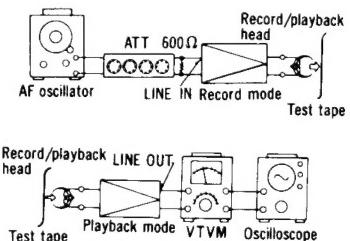
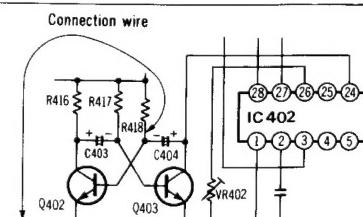

Fig. 19
Fig. 20
<p>① Overall gain</p> <p>Condition:</p> <ul style="list-style-type: none"> * Record/playback mode * Input level controls ... MAX * Standard input level; MIC -72 ± 4 dB LINE IN ... -24 ± 4 dB <p>Equipment:</p> <ul style="list-style-type: none"> * VTVM * AF oscillator * ATT * Oscilloscope * Resistor (600Ω) * Test tape (reference blank tape) ... QZZCRA for Normal 	<p>1. Test equipment connection is shown in fig. 19.</p> <p>2. Place UNIT into record mode, and tape selector to Normal position.</p> <p>3. Supply 1kHz signal (-24 dB) from AF oscillator, through ATT to LINE IN.</p> <p>4. Adjust ATT until monitor level at LINE OUT becomes 0.42V.</p> <p>5. Using test tape, make recording.</p> <p>6. Playback recorded tape, and make sure the value at LINE OUT on VTVM becomes 0.42V.</p> <p>7. If measured value is not 0.42V, adjust VR5 (L-CH), VR6 (R-CH) (See fig. 2).</p> <p>8. Repeat from step 2.</p>
<p>② Fluorescent meter</p> <p>Condition:</p> <ul style="list-style-type: none"> * Record mode * Input level controls ... MAX * Tape selector ... Normal position 	<p>1. Test equipment connection is shown in fig. 19.</p> <p>2. As shown in fig. 20, connecting the base of Q402 and ground stops the oscillation of the astable multivibrator comprising Q402 and Q403.</p> <p>3. Supply 1kHz signal (-24 dB) to the LINE IN jack, then press the record button.</p> <p>4. Adjust the ATT so that the output level at LINE OUT jack becomes 0.42 V (The input level at this condition is termed the standard input level).</p>